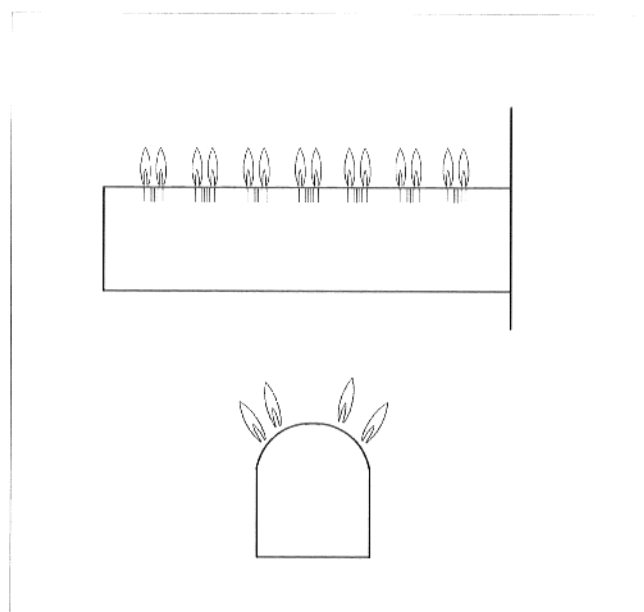

Fig. 11
51. Observe the main burner flame through hole in the burner assembly plate. The flame should have a smooth, firm contour and be mostly blue in color, fig. 11. If the main burner flame is satisfactory, go to step 53. If main burner flame is lazy, yellow, or lifting off the burners, turn the gas control knob clockwise ↻ to "OFF". Shut off the main gas piping shut-off valve. Disconnect all electric power to the appliance and call your service technician or gas supplier.
52. Test the ignition safety shutoff means by turning the gas control knob clockwise ↻ to "OFF". The main burner and the pilot flame will extinguish. Turn the gas control knob counterclockwise ↺ to "PILOT". Wait three (3) minutes. Turn the gas control knob counterclockwise ↻ to "ON". There should be no gas flow to the main burners. Confirm zero (0) pressure on the manifold with manometer. If there is gas flow, immediately turn the gas control knob clockwise ↻ to "OFF". Shut off the main gas piping shutoff valve. Disconnect all electrical power to the appliance and call your service technician or gas supplier. If there is no gas flow, go to step 53.